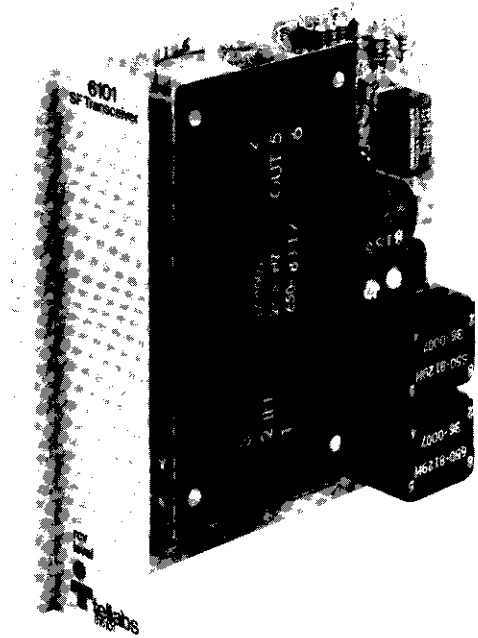

figure 1. 6101 SF Transceiver module
1.01 The 6101 SF Transceiver module (figure 1) provides single-frequency (SF) signaling over a 4wire facility and conversion between that SF signaling and the logic-level E&M intermodule signaling required by an associated Signaling Converter module. Conventional 2600Hz SF tone is standard. Other frequencies are optionally available.